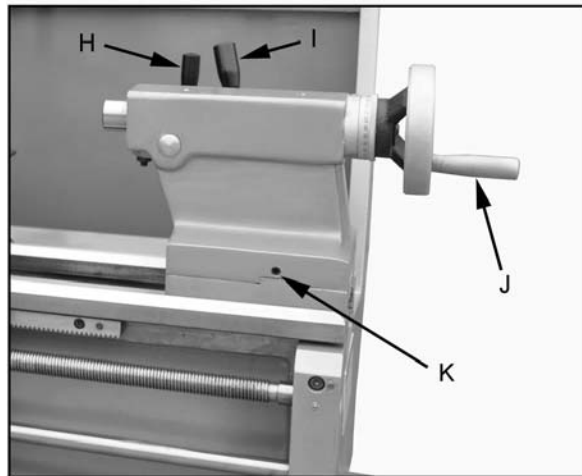

Figure 18
18. **Tailstock Quill Clamping Lever** (H, Fig. 18) – Lift up to lock the spindle. Push down to unlock.
19. **Tailstock Clamping Lever** (I, Fig. 18) – Lift up lever to lock. Push down lever to unlock.
20. **Tailstock Quill Traverse Handwheel** (J, Fig. 18) – Rotate clockwise to advance the quill. Rotate counter-clockwise to retract the quill.
21. **Tailstock Off-Set Adjustment** (K, Fig. 18) – Three set screws located on the tailstock base are used to off-set the tailstock for cutting tapers. Loosen lock screw on tailstock end. Loosen one side set screw (K, Fig. 18) while tightening the other until the amount of off-set is indicated on scale. Tighten lock screw.